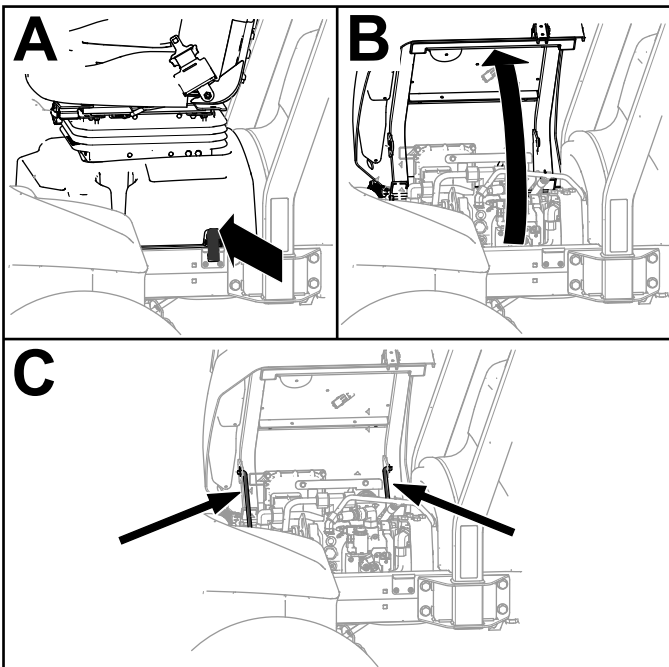

Figure 105
1. Unlatch the seat base (A of Figure 105).
2. Tilt the seat and base open (B of Figure 105).
3. Support it with the prop rods (C of Figure 105).